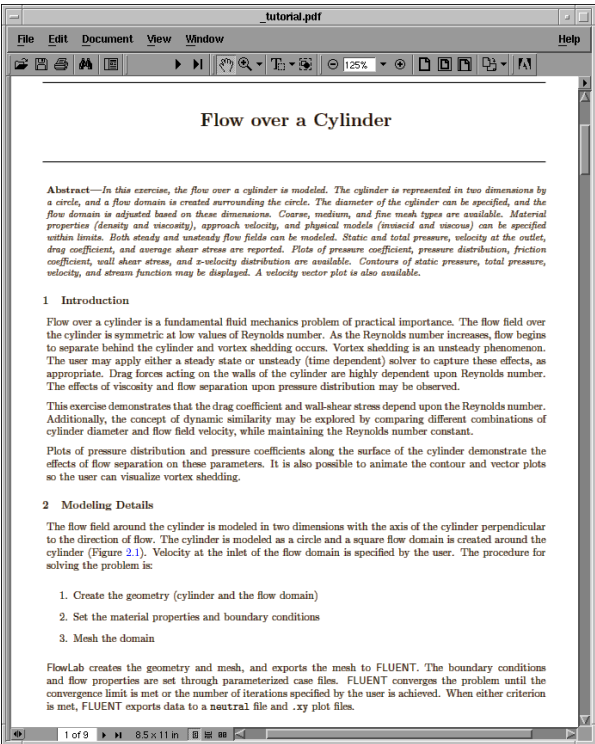

Figure 5.4.2: Technical Note for the Cylinder Template
- (a) Click **Load Notes** for the detailed description about modeling the problem (Figure 5.4.2).